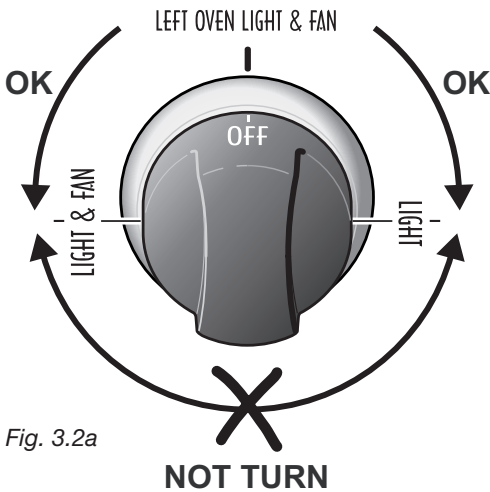

Fig. 3.2a
The oven light and the fan motor are controlled by a switch knob on the control panel (fig. 3.2a - 3.2b). To light up the oven lamp turn the knob anti-clockwise to **LIGHT** position.
**IMPORTANT NOTE:** during ignition of the oven burner the fan motor shall be switched off (light and fan control knob in **OFF** position - Figs. 3.2a - 3.2b).
After lighting the oven burner switch on the fan motor by turning the LIGHT & FAN control knob (fig. 3.2a - 3.2b) on LIGHT & FAN position.